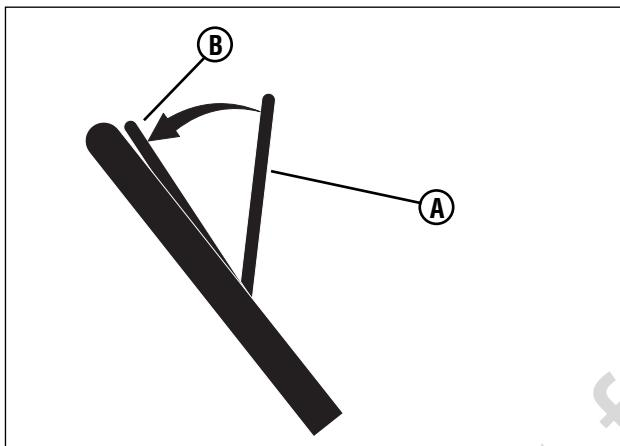

Figure 11: Operating the engine stop lever
Release the engine stop lever (A, **Figure 11**) and the engine and the blade will automatically stop. To run the engine, hold the engine stop lever in the Operating position (B).
1. Hold the engine stop lever (A, **Figure 11**) in the Operating Position (B).